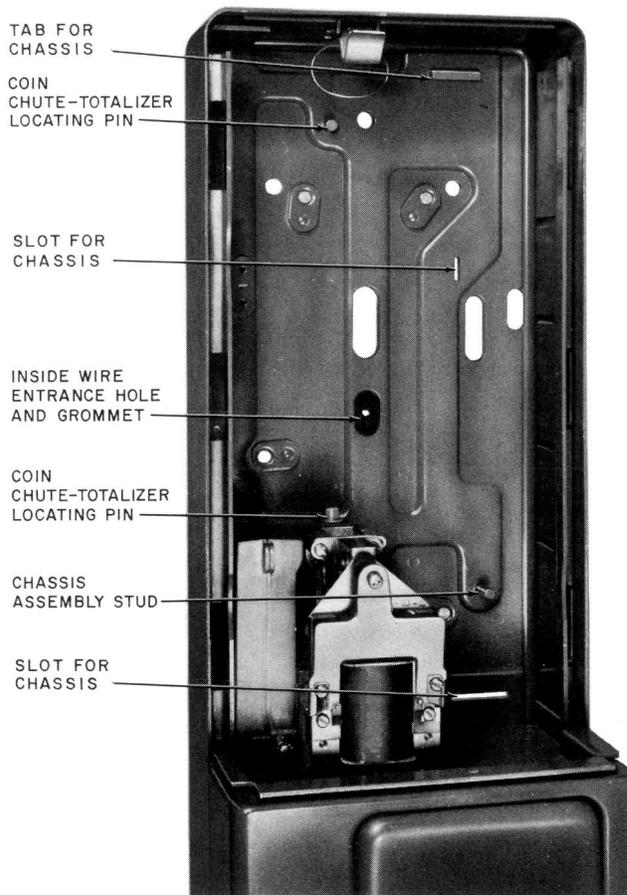

Fig. 2 — Upper Housing
- (1) Place assembly on pins located on rear of hopper assembly and back of housing (Fig. 2).
- (1) Slide chassis under tab (Fig. 2).
- (2) Seat chassis tabs in slots.
- (3) Tighten chassis mounting captive screw.
- (4) Replace black and yellow leads on coin relay after threading through hole in hopper. Connect yellow lead to terminal G and black lead to terminal 3 of coin relay.
- (5) Replace coin chute-totalizer assembly (3.04).